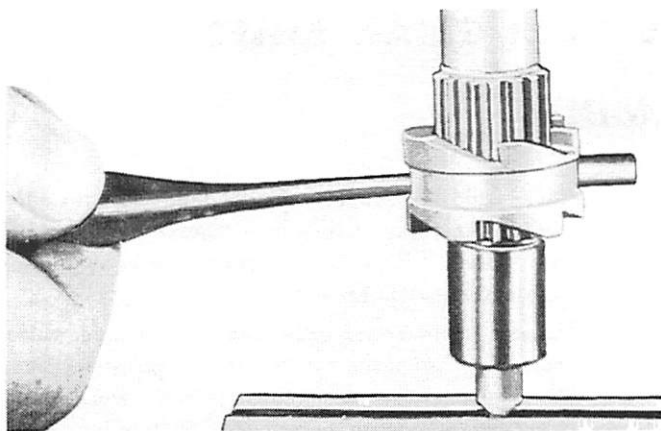

Figure 5. Removing Cross Pin from Sliding Clutch
2. Remove sliding clutch from propeller shaft by setting cam follower in place in end of propeller shaft. Press against cam follower and, with small punch, push cross pin out of sliding clutch. (Figure 5)